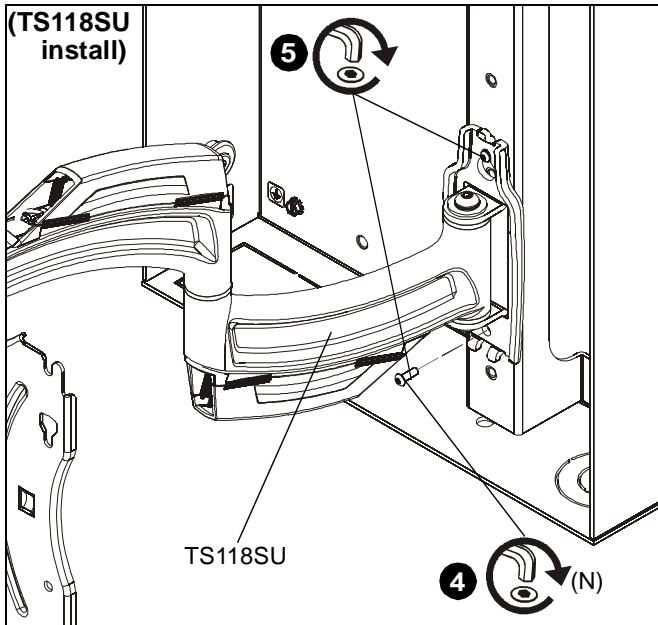
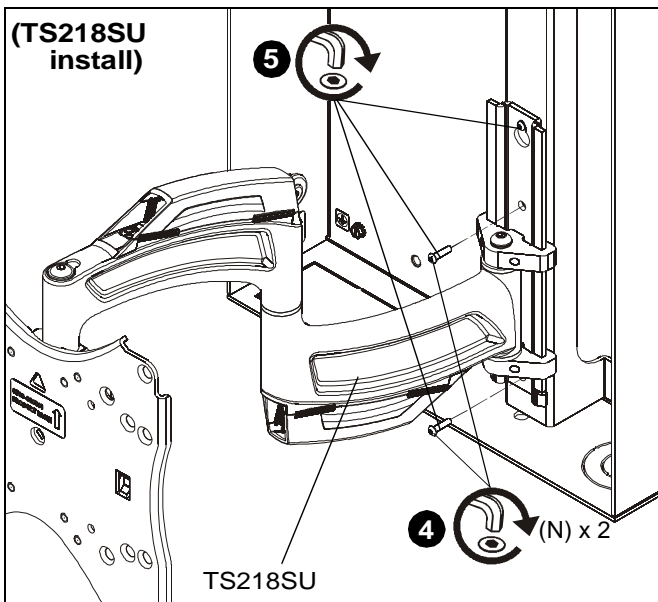

Figure 10
Figure 11
4. Use one (TS118SU) or two (TS218SU) 1/4-20 x 1/2" button head cap screws (N) to attach TS118/218SU to attach bracket (P). (See Figure 10) and (See Figure 11)
5. Tighten all screws to secure TS118/218SU to attach bracket (P). (See Figure 10) and (See Figure 11)